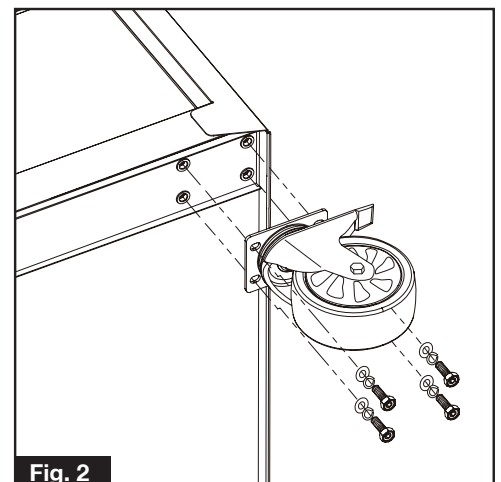

Fig. 2
- Attach the swivel brake wheels to the base of the workstation on the same side as the handle, using M10x20mm bolts, washers and spring washers as shown in Fig. 2. Tighten using a 16mm spanner/socket.